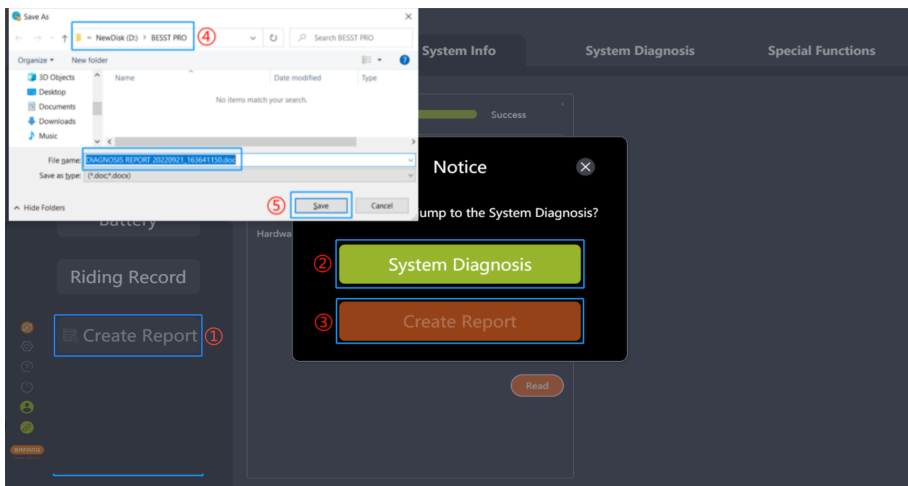

Fig 7-9 Create Report in the System Info
1. Click "Create Report", and a pop-up window will prompt "Do you want to jump to System Diagnosis?" (Figure 7-9).